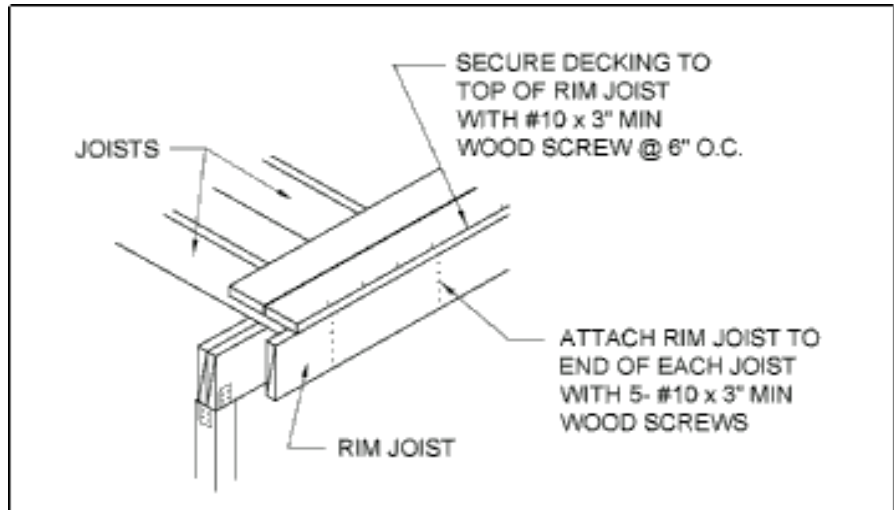

**Figure 17 - Joist-to-Beam Detail**
**Joist-to-Beam Connection:** Each joist shall be attached to the beam as shown in Figure 17. Mechanical fasteners shall be galvanized with 1.85 oz/sf of zinc (G-185 coating) or shall be stainless steel.